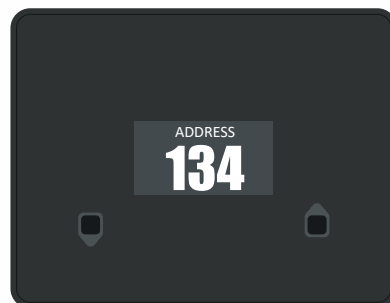

Fig. 2
- 9 Once identified the ADDRESS sub-menu (Fig. 2) press the UP or DOWN key to change the sensor address.